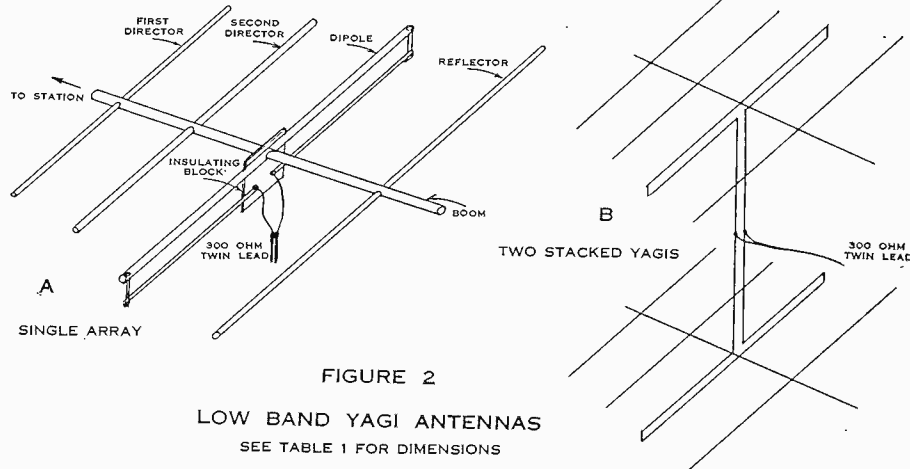

FIGURE 2
*NOTE 2—To stack two antennas vertically, make the dipole of ¾ and 3/8 diameter tubing and space 1¾" center to center. See Figure 2.
temporarily on the tower for a two-month period. The design features of the four element Yagis are shown in Figure 2 and the formula used in determining the dimensions is shown in Table 1. Preliminary measurements indicated that the antenna should be cut for the low frequency end of the band to center its maximum gain at the frequency of the video carrier. The impedance of the antenna using an ordinary folded dipole as the driven element is roughly 100 ohms. By using conductors of different size in the folded dipole it is possible to step this up to 300 ohms or some other desired value. By stepping up the impedance to 150 ohms, two arrays can be conveniently stacked and matched using ordinary 300 ohm twin lead to interconnect the arrays.